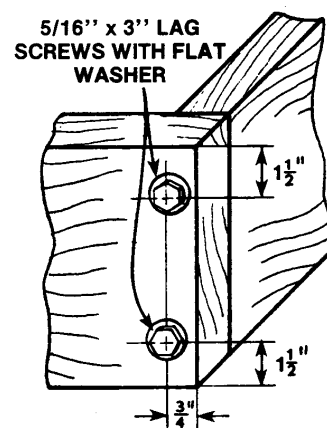

FIGURE 3 — LAG BOLT ATTACHMENT
Two screws are inserted at each end of the 50" board (Figure 3). Attach with 10d nails the 1" x 3" back support board to the center of the 2 x 8 forming the end of the collector.
9. Attach one of the 50"-2 x 8 ends to the 95" long sides with four washered 5/16" x 3" lag screws (Figure 3). Two screws are inserted at each end of the 50" board. Nail with 10d nails the 1" x 3" back support board to the center of the 2 x 8 forming the end of the collector so that the back edge of the board is flush with the inside edge of the back panel groove.